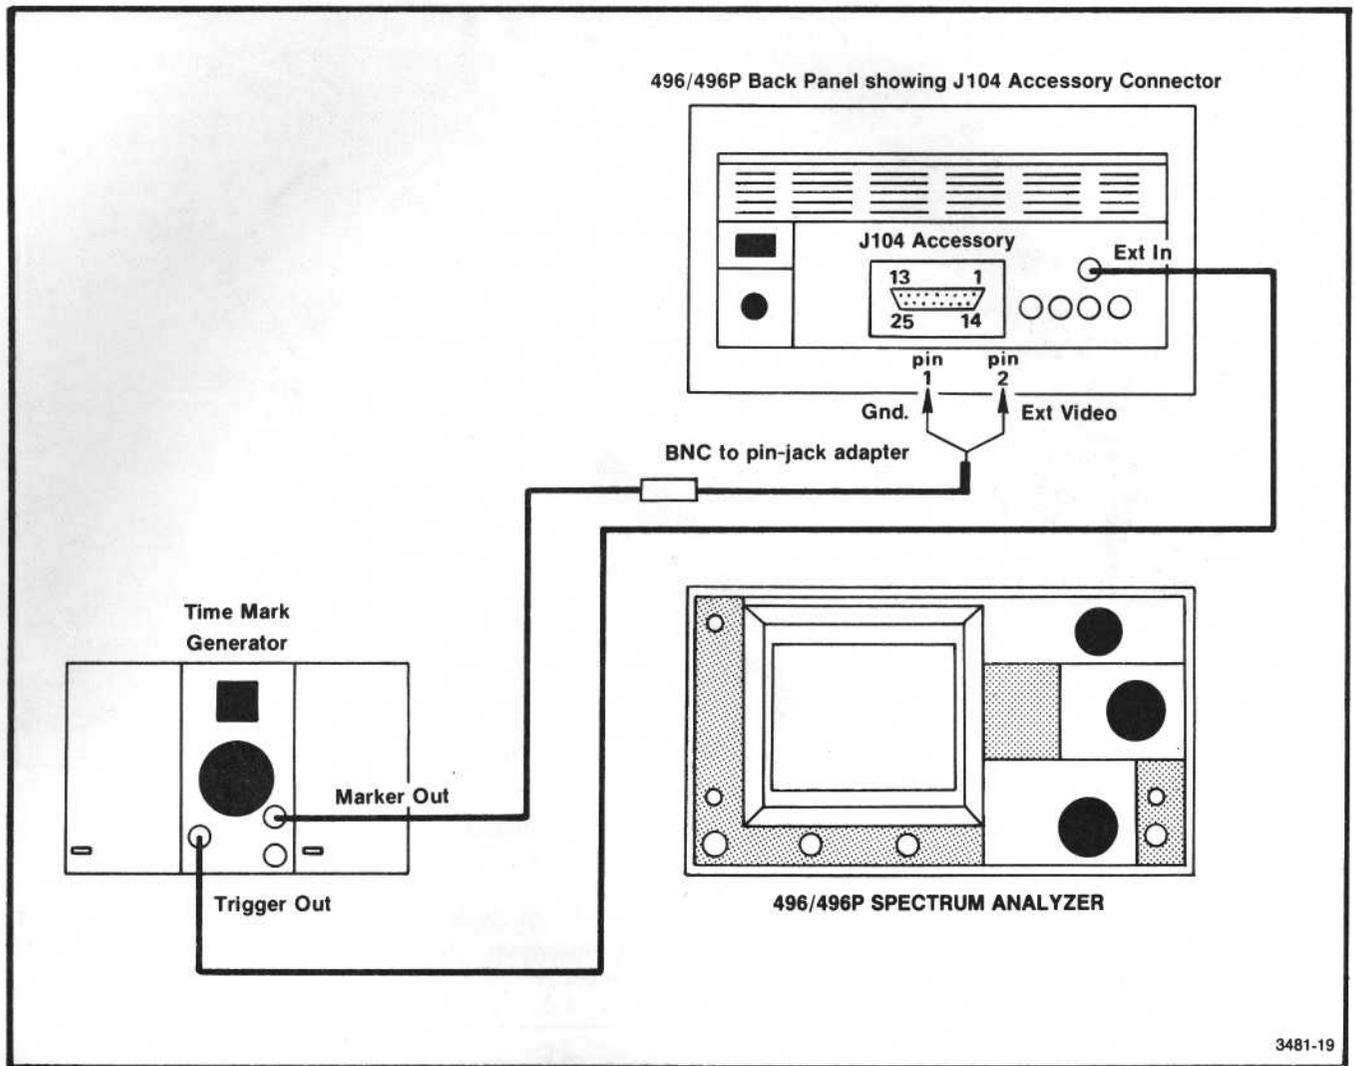

Fig. 3-28. Test equipment setup for calibrating sweep timing.
a. Test equipment setup is shown in Fig. 3-28. Select EXT Triggering, TIME/DIV of 10 ms, and a FREQ SPAN/DIV of 10 MHz or less.
b. Apply 10 ms time marks from the time-mark generator to the EXT Video In (pins 2 and 1 of the ACCESSORIES jack, see Fig. 3-28) and the Trigger Output of the time-mark generator to the EXT TRIG input on the back panel of the 496/496P. This should provide a display of 10 ms markers.